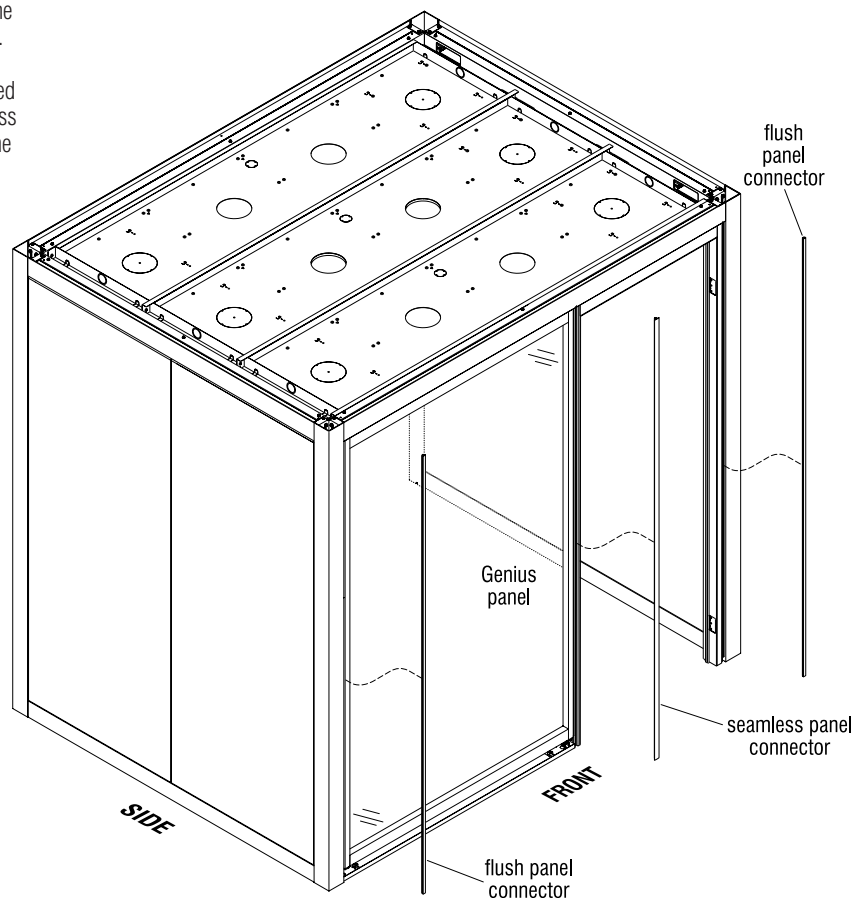

Figure 6
**Important:** The Genius panel frame joins to the door frame (panel-to-door frame) using a seamless panel connector. Genius panels join to corner posts (panel-to-post) using flush panel connectors, and in situations with more than one Genius panel on a front wall, the panel-to-panel connection uses a seamless panel connector. All panel connector types install to both inside and outside of the super structure (Figures 6 & 7).
**Note:** Both the seamless panel connectors and the flush panel connectors install in a similar manner. See figures 6 & 7 to determine the correct location for both types of panel connectors for your super structure layout.
11. Before installing any flush, or seamless panel connector, first assure that the panel frame to door frame are plumb to each other and to the corner posts. Also assure that a  $\frac{1}{16}$ " gap is between each panel-to-door frame connector and that the same  $\frac{1}{16}$ " gap is between each panel-to-post connector (Figures 6 & 7).
12. Beginning at the top of any panel-to-door frame, or panel-to-post to be joined, insert the appropriate panel connector into the gap and use a thumb, or nylon block with mallet and work the panel connector in carefully and evenly from the top to the bottom. Install a panel connector to the inside and outside of each location (Figures 6 & 7).